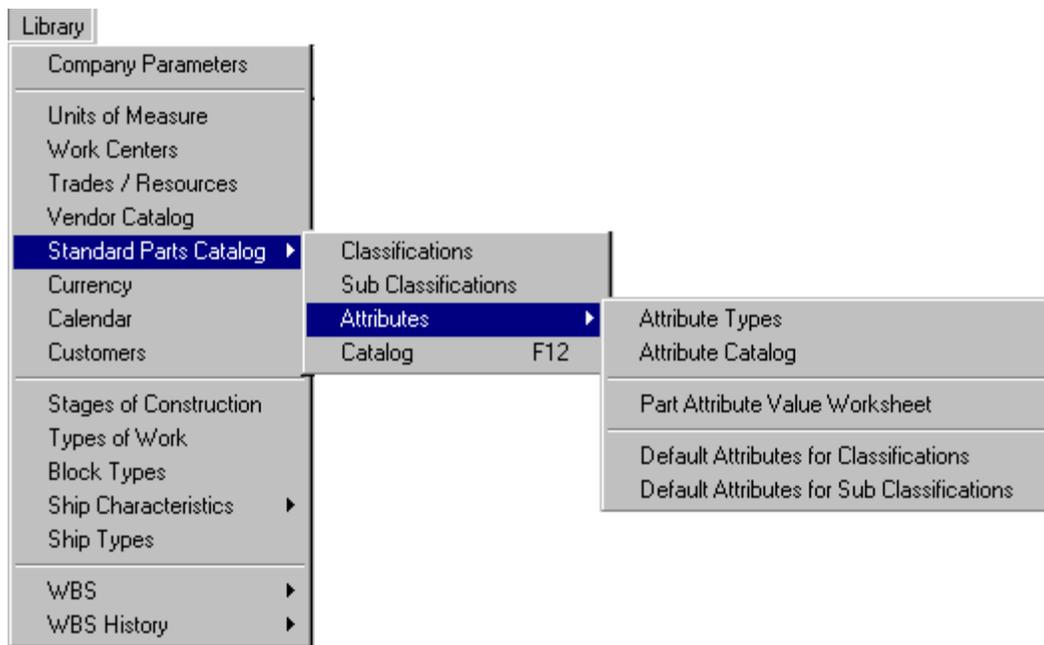

Figure 3-22: Standard Parts Catalog Menu
- **Standard Parts Catalog** (Figure 3-22) provides access to material type classifications and sub classifications; part class attributes (physical, material, performance) and default class attributes; and to the catalog of parts and interim products (assemblies, sub-assemblies, etc.).